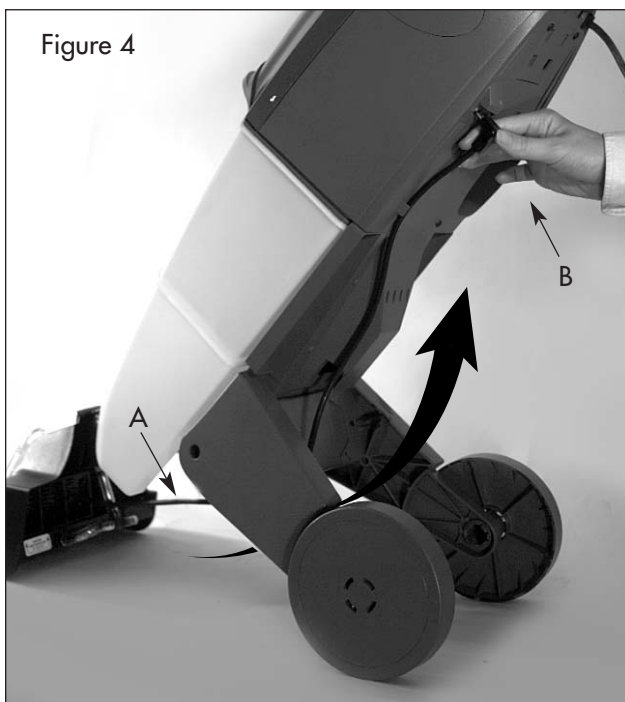

Figure 4
4. Plug the small power cord connected to the nozzle (Figure 4-A) into the receptacle in the back of the unit (Figure 4-B).
3. You will first need to unplug the separate power cord that connects the STEEMER nozzle to the cleaner (Figure 4).